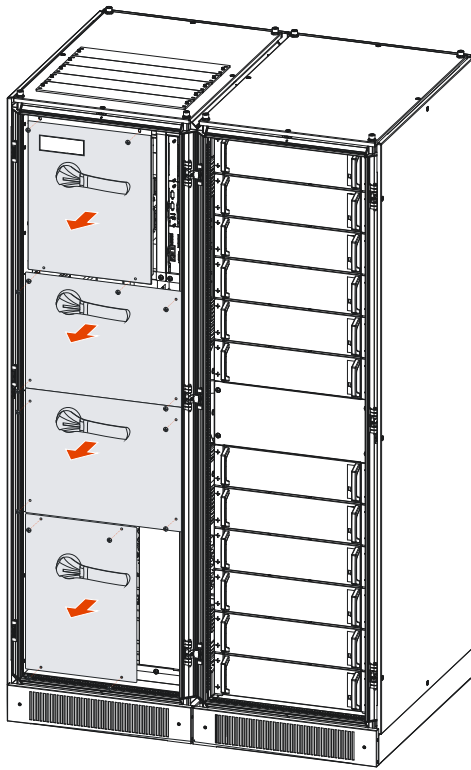

Figure3-32 Dismantle the wiring cover plate of distribution cabinet
- Step 2 Loose the fasten bolts of each cover plate, screw the handle of each switch, and then dismantle the wiring cover plate, as shown in Figure3-32.